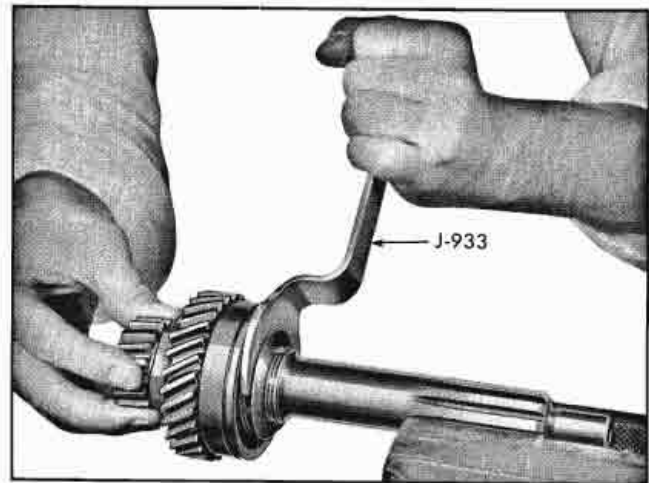

Fig. 7-40 Removing or Installing Oil Slinger
1. Place the main drive (clutch) gear in a vise with soft jaws and, using tool J-933, remove the bearing retainer nut and oil slinger (Fig. 7-40).
2. Install the combination clutch bearing retaining nut and oil slinger on the main drive (clutch) gear shaft (Fig. 7-40), drawing it up tightly with tool J-933.